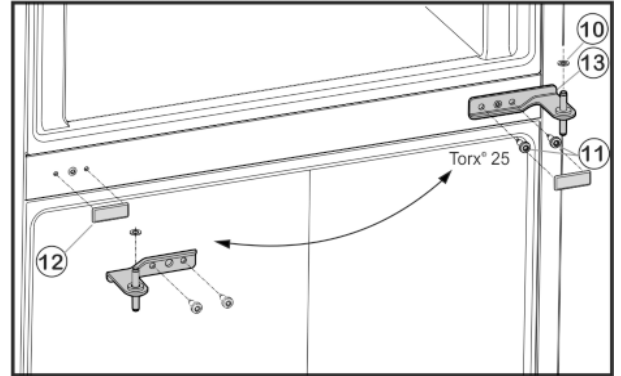

Fig. 6
- ▶ Unscrew the fastening screws Fig. 6 (11) (2 x Torx® 25) and pull the centre bearing block out of the lower door.
- ▶ Remove plastic washer Fig. 6 (10).
- ▶ Remove the cover Fig. 6 (12) carefully.
- ▶ Re-install the cover Fig. 6 (12) on the opposite side.
- ▶ Insert the centre bearing block Fig. 6 (13) turned through 180° into the lower door and fasten firmly (**with 4 Nm**) to the new hinge side with the fastening screws (2 x Torx® 25).
- ▶ Refit plastic washer Fig. 6 (10).